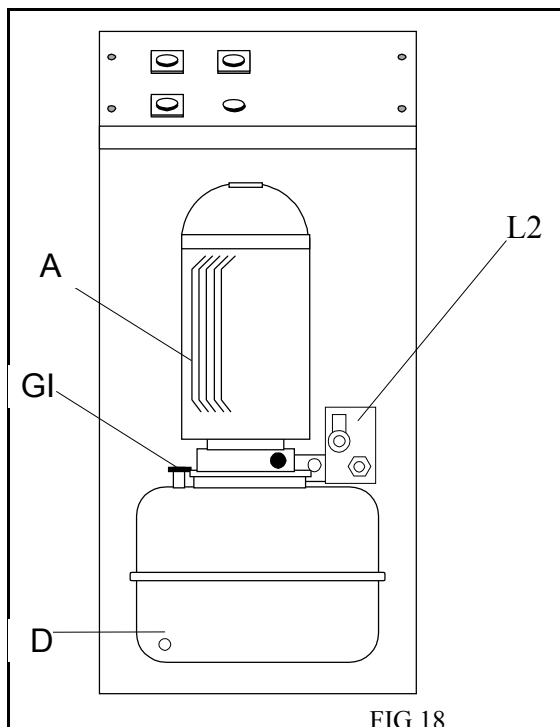

FIG.18
- Change the oil in the control unit reservoir every approximately 1000 hours of service. Use “AGIP ACER 46” hydraulic oil or an equivalent product. This operation must be carried out with the platforms completely lowered. To change the oil, use a suction pump to remove oil from the filler plug (FIGURE 18) and add about 8 litres of clean oil through the same plug.
- After completing 2 or 3 up and down unladen cycles, check the oil level in the reservoir (S FIGURE 18).
- Clean solenoid valve (L FIGURE 18). After having removed it from its socket, clean it using petrol and compressed air, handling it with care and paying great attention that it is not damaged during fitting and removal.
- After 2 or 3 oil changes it may be necessary to replace the suction filter. To do this, disassemble the hydraulic unit (GI FIGURE 18) from the reservoir (D FIGURE 18) of the hydraulic oil control unit. The filter mounted on the pump suction pipe can then be replaced.
- The descent speed adjustment valve is located underneath the solenoid valve L2 (V FIGURE 18). The descent speed adjustment valve must also be cleaned on a periodic basis using compressed air and gasoline, being careful to avoid any damage while it is being removed.